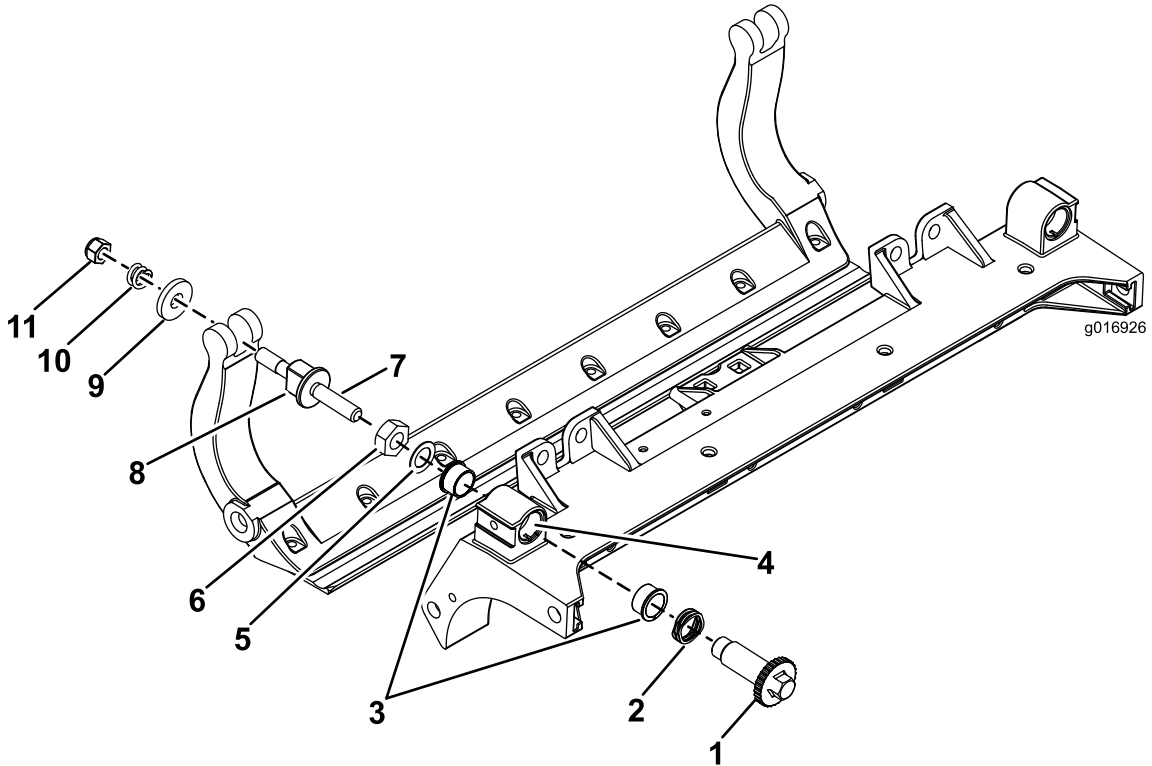

Figure 33
1. Remove all parts (refer to the *Installation Instructions* for the HD DPA Kit and to Figure 33).
2. Apply anti-seize compound to the inside of the bushing area on cutting unit center frame (Figure 33).
3. Align the keys on flange bushings to the slots in the frame and install the bushings (Figure 33).
4. Install a wave washer onto the adjuster shaft and slide the adjuster shaft into the flange bushings in the frame of the cutting unit (Figure 33).
5. Secure the adjuster shaft with a flat washer and locknut (Figure 33).
12. Place a steel washer outside each of the nylon washers (Figure 33).
Note: Washers on the inside may have a gap (Figure 33).
15. Tighten the nut on each bedbar-adjuster assembly until the compression spring is fully compressed, then loosen the nut 1/2 turn (Figure 33).